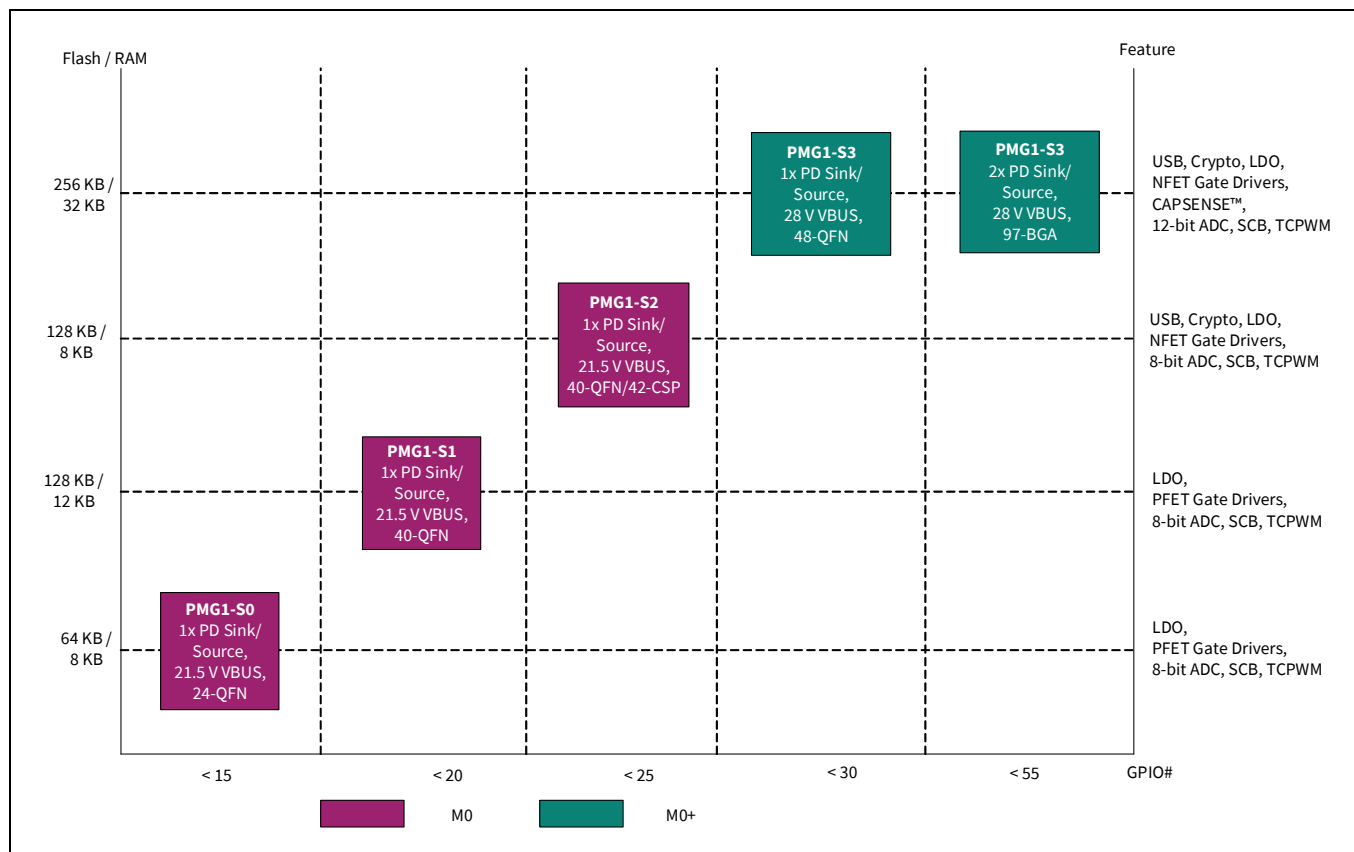

Figure 1 PMG1 family segmentation
EZ-PD™ PMG1 (Power delivery MCU Gen1) is a family of high-voltage USB-C Power Delivery (PD) microcontrollers (MCU). These chips include an Arm® Cortex®-M0/M0+ CPU and USB-C PD controller along with analog and digital peripherals. EZ-PD™ PMG1 is targeted for any embedded system that provides/consumes power to/from a high-voltage USB-C PD port and leverages the microcontroller to provide additional control capability. **Figure 1** shows the EZ-PD™ PMG1 family segmentation.